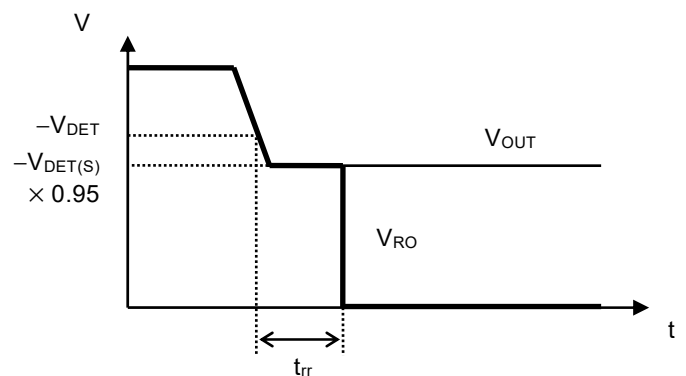

Figure 8 Reset Reaction Time
- *4. The time from when V_{OUT} falls below -V_{DET} to when the RO pin output inverts (Refer to **Figure 8**). The time period from when V_{OUT} changes to V_{OUT(S)} → -V_{DET} to when V_{RO} reaches V_{OUT} / 2.